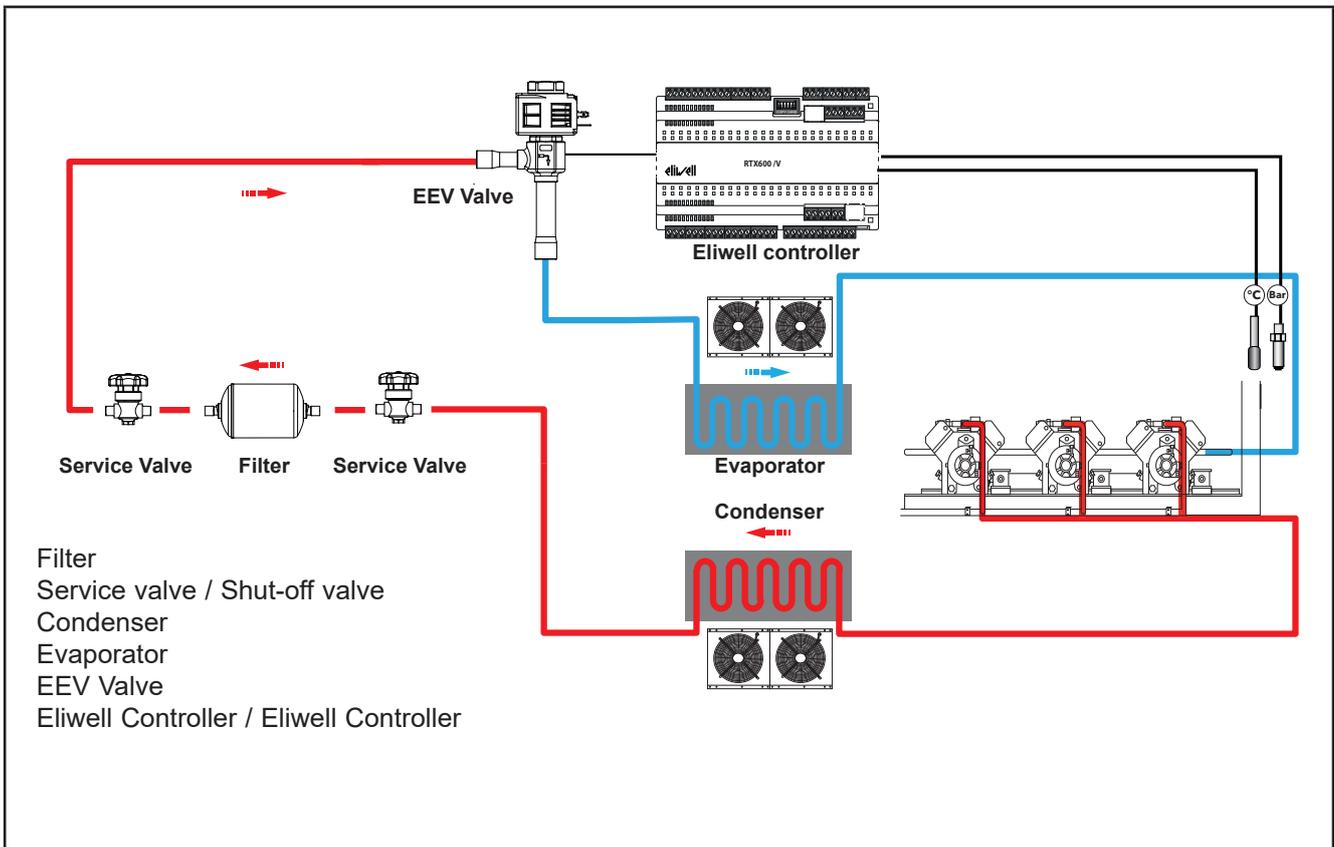

Fig. 5. Application example
(3) Help ensure that a main filter is installed in the system to prevent the internal components of the valve from becoming clogged with impurities during operation. See Fig. 5.